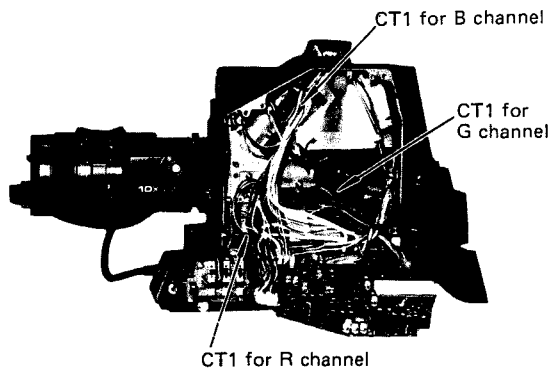
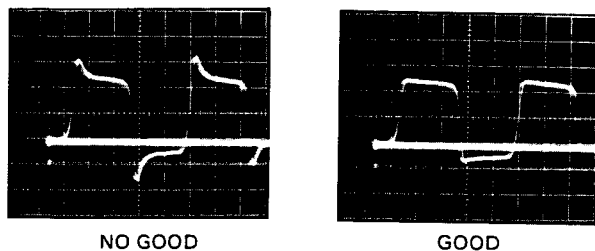

Fig. 5-5-2
Fig. 5-5-3
- o Adjust CT1 (FREQUENCY RESPONSE) on the Preamplifier board for the G channel (Fig. 5-5-2) to make the signal waveform as flat as possible. (Fig. 5-5-3)
- o Adjust CT1 (FREQUENCY RESPONSE) on the Preamplifier board for the R channel (Fig. 5-5-2) to make the signal waveform as flat as possible as in the case of G frequency response adjustment. (Fig. 5-5-3)
- o Adjust CT1 (FREQUENCY RESPONSE) on the Preamplifier board for the B channel (Fig. 5-5-2) to make the signal waveform as flat as possible as in the case of G and R frequency response adjustment. (Fig. 5-5-3)